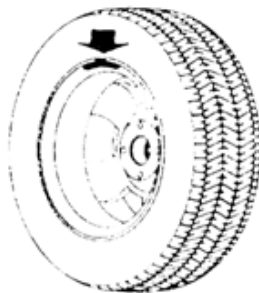

Figure 10-8
10.2.3 Slowly spin wheel, when inside counterweight position indicator light (figure 5-1(8)) all on, clip correspond counterweight on 12 o'clock position on inside of rim, ect figure 10-8;